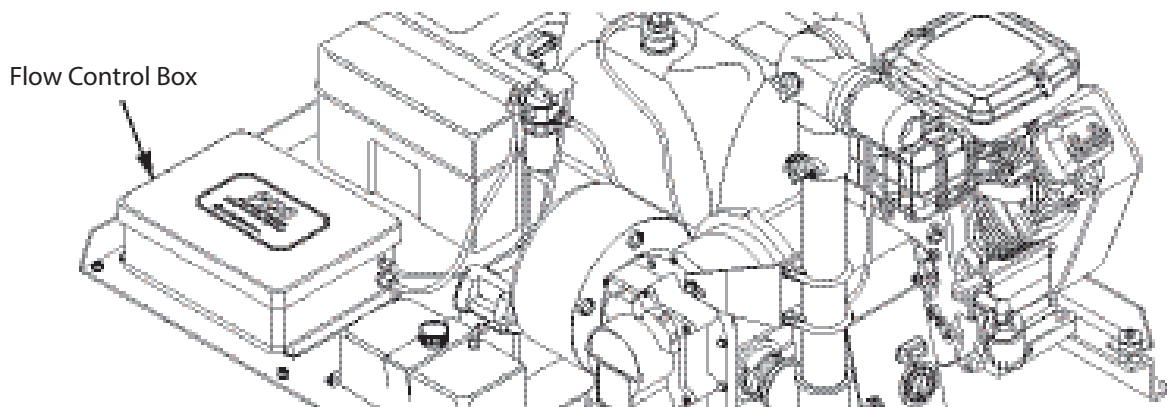

Figure 11 - Flow Control Box
1. Open the cover of the flow control box. Reference Figure 11.